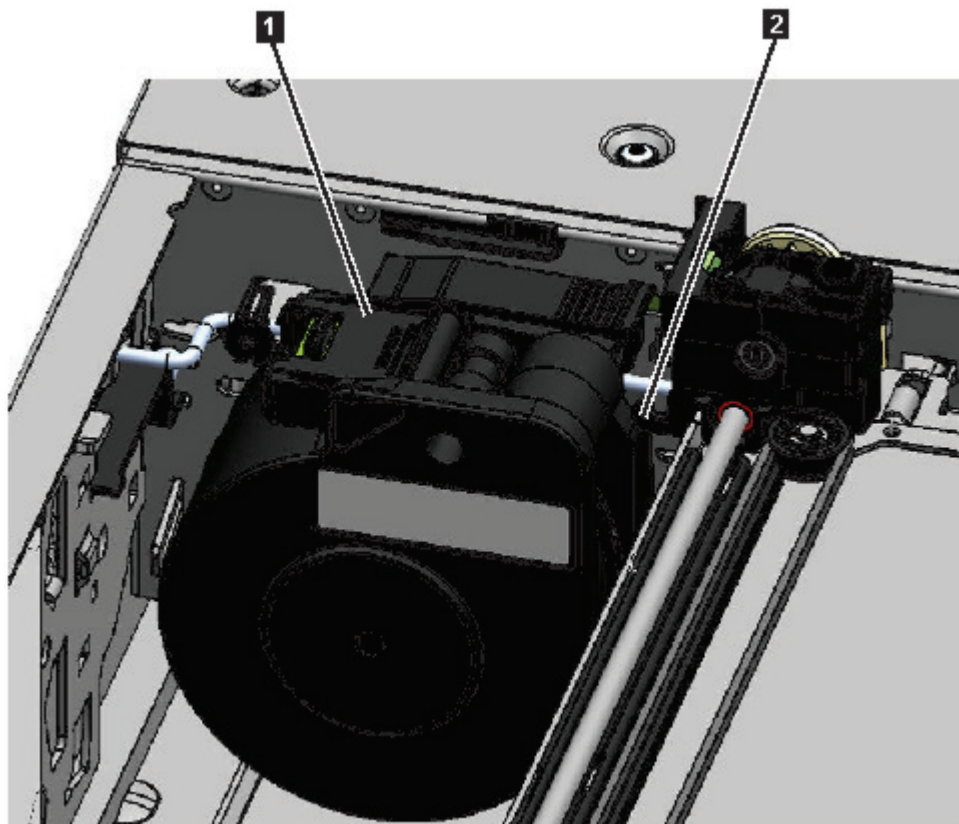

Figure 75. Spooling cable in park position
Note: Note where the end of the spooling cable pivots in the accessor. It is important to know when you attach the new spooling cable to the accessor. See **2** in Figure 75 on page 124.
9. Place the spooling connector (**1** in Figure 75 on page 124) to the park position.